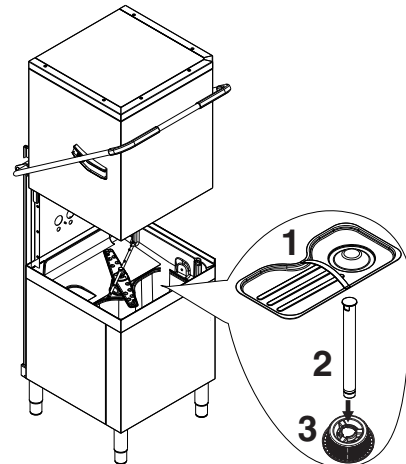

Figure 23 Filters and overflow
- Remove the the flat filter "1", the overflow "2" and the tank filter "3" (Figure 23).